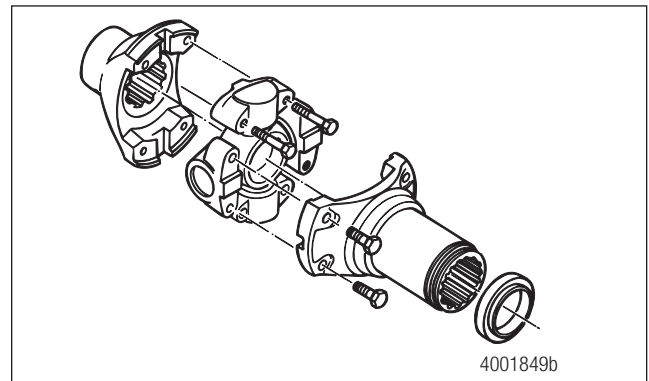

Figure 7.1
2. Loosen and remove the four capscrews retaining the universal joint cross to the slip yoke. Figure 7.1.
3. Install the four new capscrews and lock washers that attach the universal cross to the end yoke. Figure 7.1.